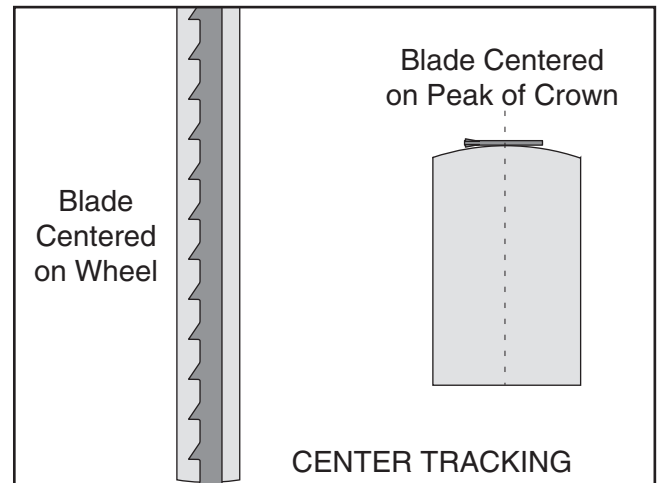

Figure 15. Center tracking profiles.
4. Spin the upper wheel by hand at least three times and watch how the blade rides on the crown of the wheel. Refer to **Figure 15** for an illustration of this concept.